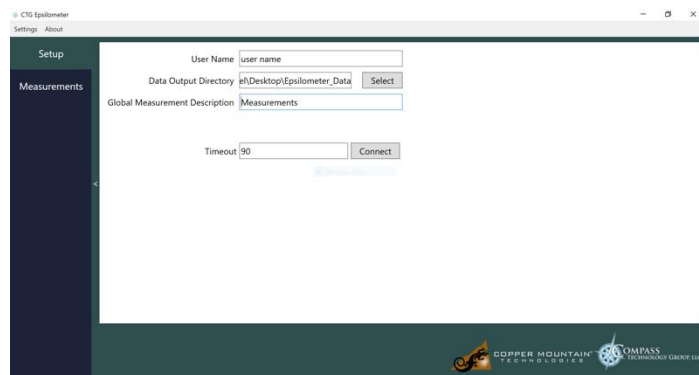

Figure 4. Initial "Setup" Screen
2. Open CTG Epsilon software by double-clicking the CTG Epsilon icon  on your desktop. An initial "Setup" screen will appear. (Figure 4)